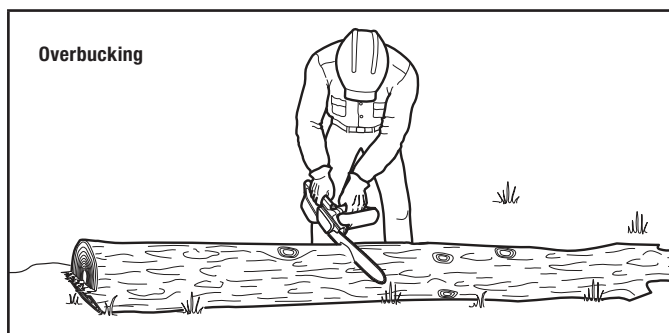

Figure 18
When logs are supported along the entire length, extra care should be taken to make sure the saw chain does not contact the ground or other support structure (Fig. 18).
1. Begin cutting from above, with the bottom of the saw chain against the top of the log (Fig. 18).